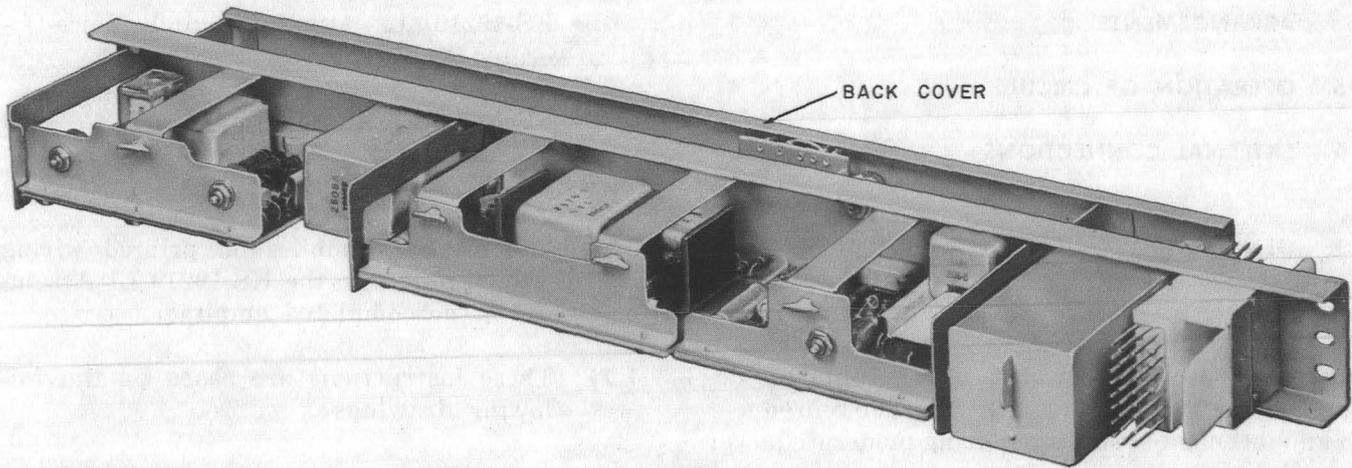
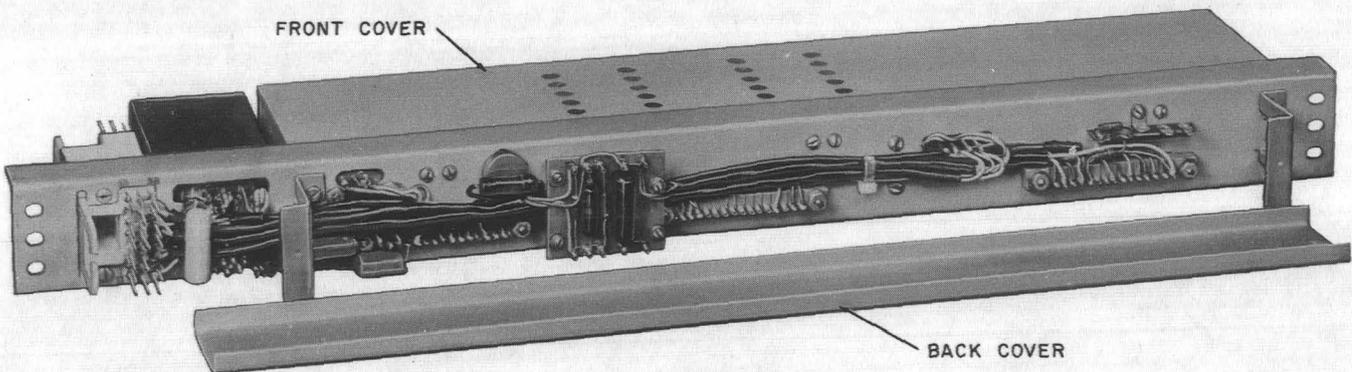

Fig. 1 — Front View with Cover Removed
Fig. 2 — Rear View with Cover Removed
1.05 Fig. 1 shows a front view of the amplifier with the protective cover removed. Fig. 2 shows a rear view of the amplifier. The amplifier is furnished as a complete assembly, including all transistors.